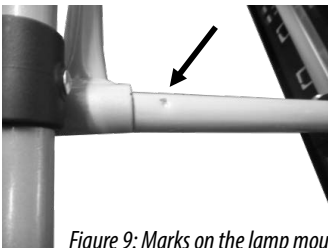

Figure 9: Marks on the lamp mount
- Now insert the pipes of the lamp mount back into the rack table. Slide the pipes in far enough that the marks (Figure 9) on the pipes are just hidden.